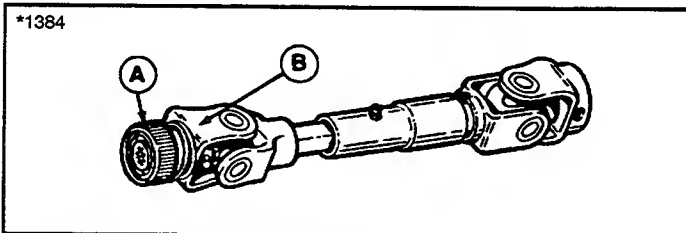

Figure 5. Mower Drive Shaft
3. The mower drive shaft connects to the tractor drive shaft by a series of retracting balls located under the locking ring (A, figure 5). When the locking ring is released, the balls lock into a groove on the tractor drive shaft. To connect the drive shaft, proceed as follows:
- Place the mower drive shaft barely onto the tractor drive shaft. Turn the coupler (B, figure 5) to align the splines.
- Pull the locking ring (A, figure 5) back, then push the mower drive shaft onto the tractor drive shaft, past the groove.
- Remove the pins and clips from hitch (figure 5). Push back on height control lever to aid removal of pins and to maneuver mower.